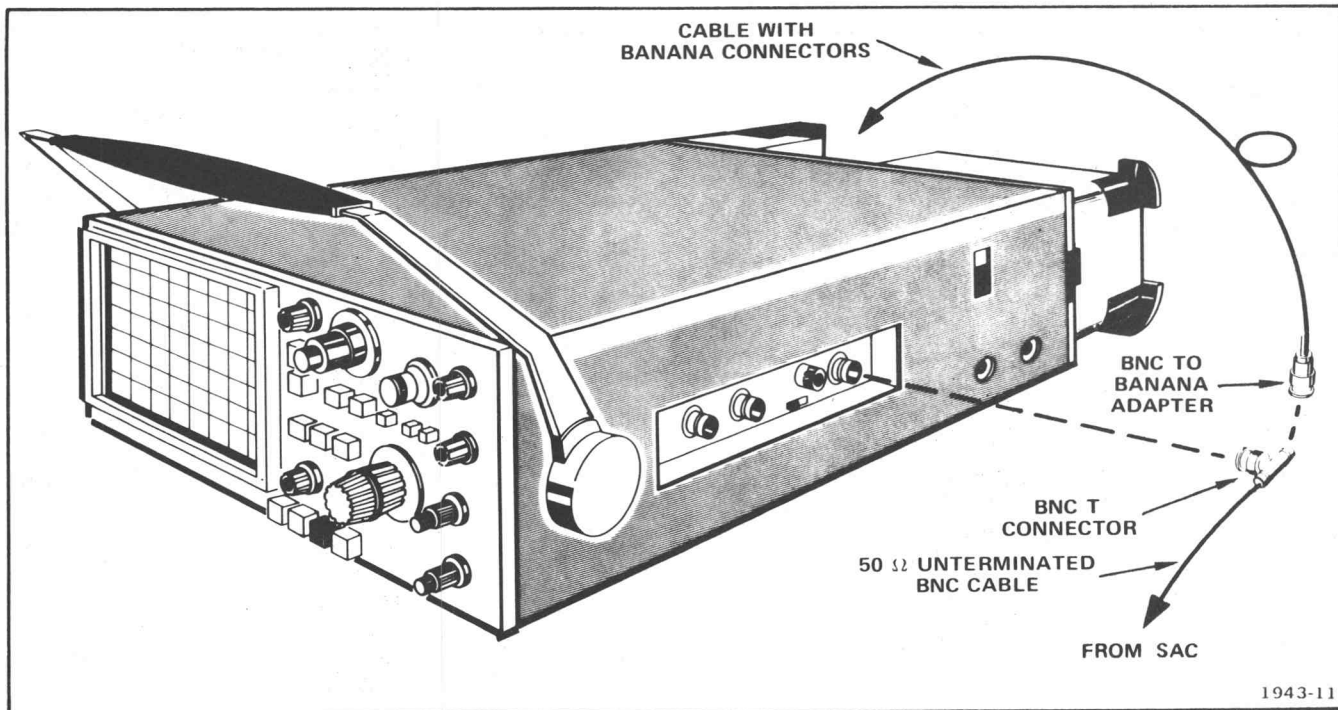

Fig 5-11
- a. Connect equipment to EXT TRIG or HORIZ INPUT connector and EXT BLANK connector as shown in Fig. 5-11.